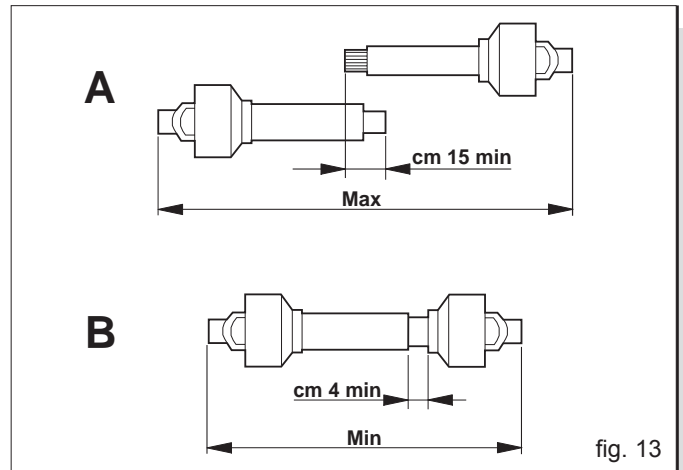

fig. 13
- When the Cardan shaft is with drawn to the end of its stroke, the two pipes should overlap by at least 15 cm (A Fig. 13). When it is inserted all the way, the minimum admissible play is 4 cm (B Fig. 13).